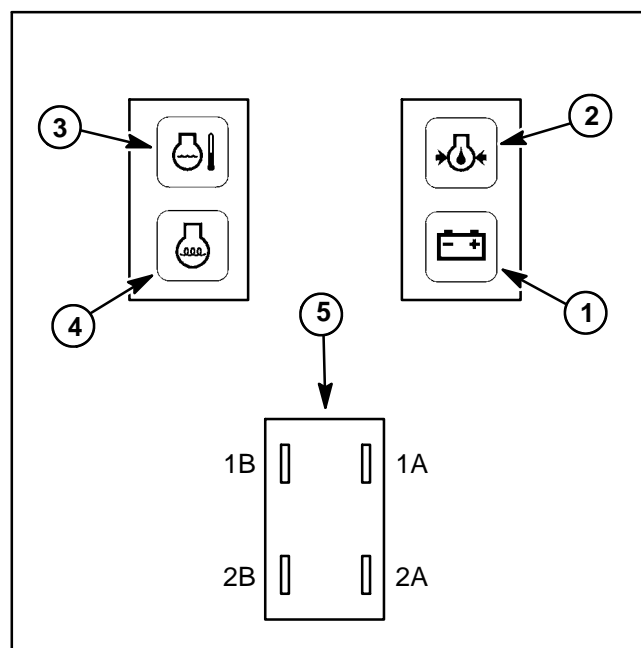

Figure 22
3. Apply 12 VDC to terminals 1A and 2A (Fig. 22).
4. Ground terminals 1B and 2B (Fig. 22).